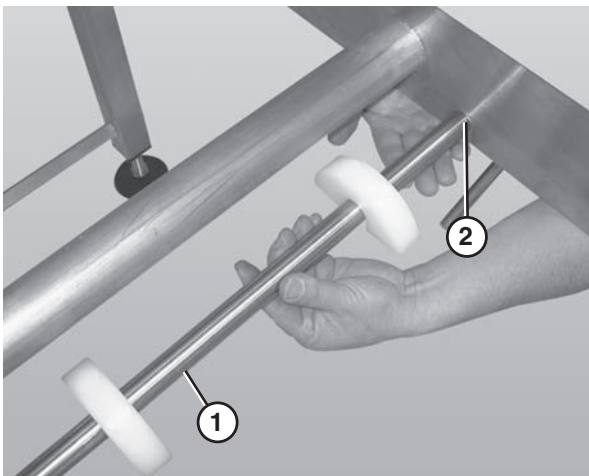

Figure 54
1. Remove the belt returns by pushing up on the return shaft (Figure 54, item 1) and sliding it through the large hole (Figure 54, item 2) in the frame.
2. Lower the opposite end of the return shaft (Figure 54, item 1) and slide it out of the frame.